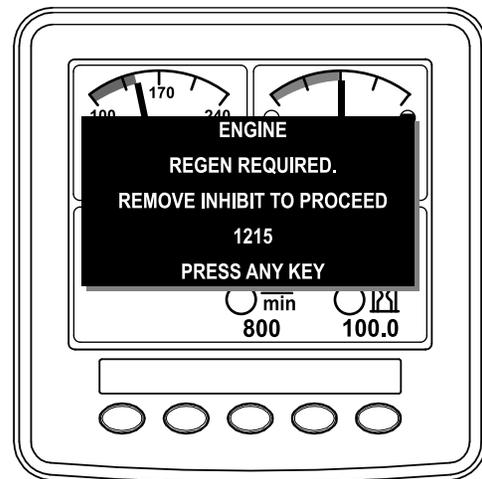

Figure 45
**Note:** If INHIBIT REGEN is set to ON, the InfoCenter displays ADVISORY #1215 (Figure 45). Press any button to set inhibit regeneration setting to OFF and continue with the reset regeneration.